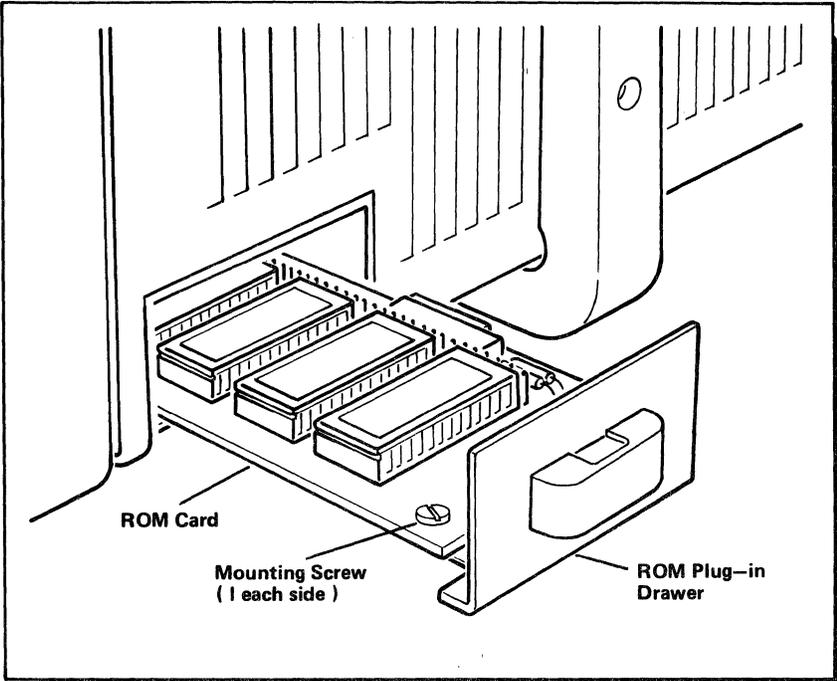

Figure 4-18. ROM Card Replacement.
The ROM card is located in a small drawer on the right side of the processor unit as shown in Figure 4-18. To remove the ROM card, simply pull the drawer straight out and remove the card from the drawer by unscrewing the two (2) mounting screws. The ROM card can be replaced by screwing a new card in and pushing the drawer straight in making sure that the drawer is flush with the cover of the processor unit.